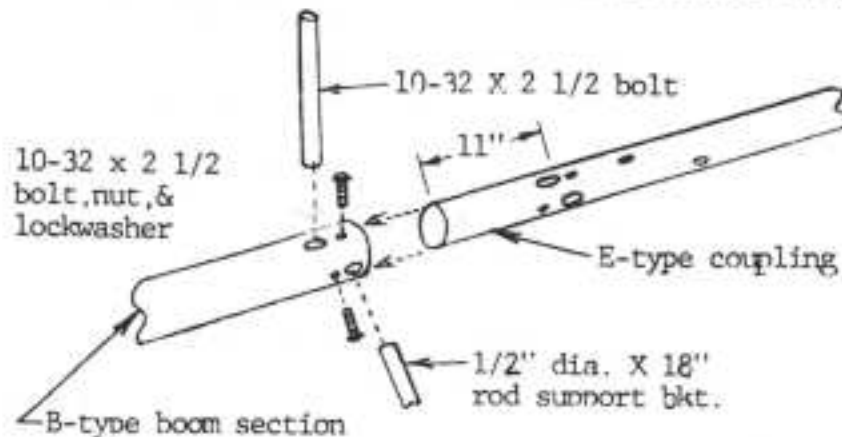

figure 3
- 3) Install the E-type coupling (identify from fig.1) in the appropriate end of the B-type boom section, as shown in fig.3. Insert 2 of the 1/2" dia rod support brackets through both the boom and coupling sections after aligning the 1/2" holes. Again bolt the rod support brackets in place with 10-32 X 2 1/2" bolts. Note: You will not be able to install nuts and lockwashers inside the boom.